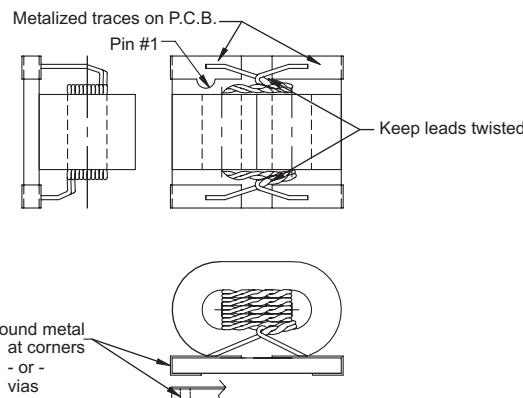

Figure 9: Balun Drawing
(1) N connector center pin should be approximately 80 mils in length.
(2) T1, T2 balun: 6.5 turns thru, as shown in Figure 9.
(3) Due to the power dissipation of this device, the printed circuit board should be mounted / attached to a heat sink.
(4) 200 mA minimum current rating.